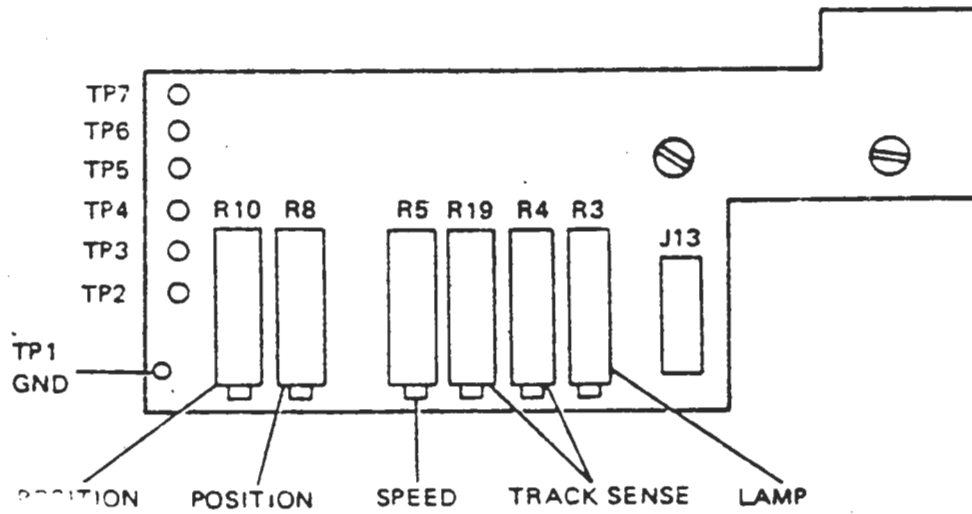

Figure 2
- 1) Check the voltage between test points 1 and 7 of the Lamp Amp PCB on the PerSci drive (see Figure 2). If this voltage is 1.65 volts or greater, yet the drive is still functional, the lamp should be replaced as it has aged. The fact that the voltage is at 1.65 volts indicates the circuit is reaching the limit of compensation for bulb filament decay.
- 3) With power applied check the voltage on the Lamp Amplifier PCB of the drive (see Figure 2) between test points 1 and 7. This should read between 1.25 and 1.65 volts DC when operating correctly. If the voltage is 1.65 volts or greater (typically between 2 and 5 volts DC) go on to the next step.